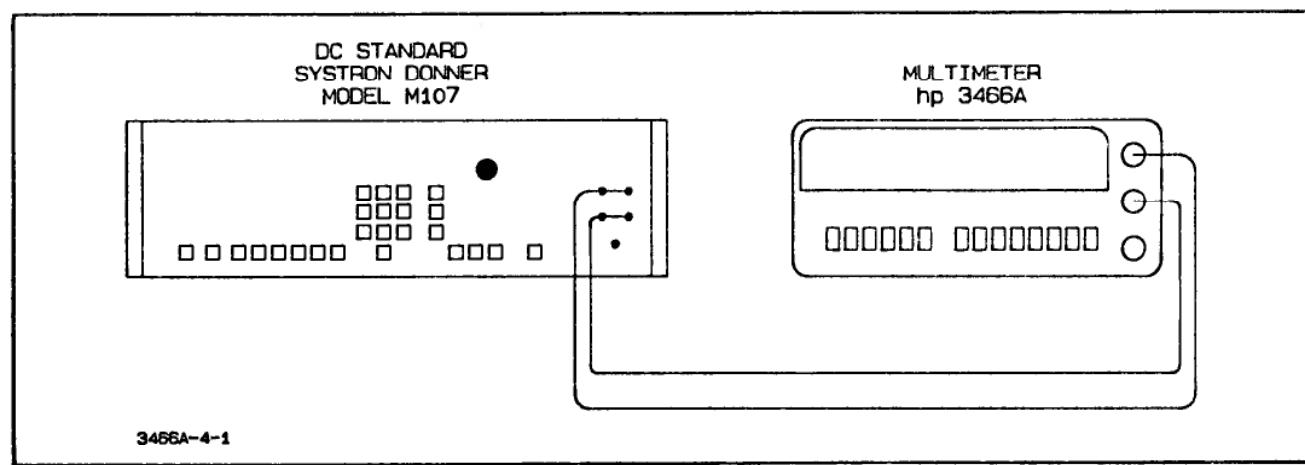

Figure 4-1. DC Voltmeter Accuracy Test
- Connect the DC Standard to the 3466A's input terminals as shown in Figure 4-1.